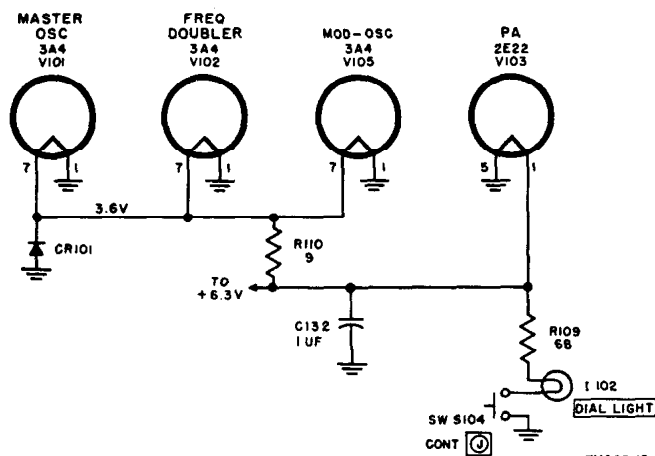

Figure 90. Transmitter filaments, simplified schematic diagram.
## 116. Transmitter Filament Circuit (fig. 90)
- (1) Contacts 1 and 2 open, disconnecting the ground from switch section S102A.
- (2) Contacts 3 and 4 close, connecting terminal A 102A to switch section S102A.
- (3) Contacts 6 and 7 close, connecting the receiver antenna-matching transformer T114 (through S102F) to ground.
- (4) Connects 11 and 12 close, connecting doublet terminal A102B to transmitter coil T110A.
c. When switch section S105-3, control ④ (fig. 88), is in the PHONE position only, the filaments of the transmitter tubes are off, unless the key or press-to-talk switch on the microphone is depressed. Contacts 14 and 15 close, connecting resistor R110 and filament pin 1 of tube V103 (fig. 90) to terminal 54 of receptacle J102, through switch section S103A.